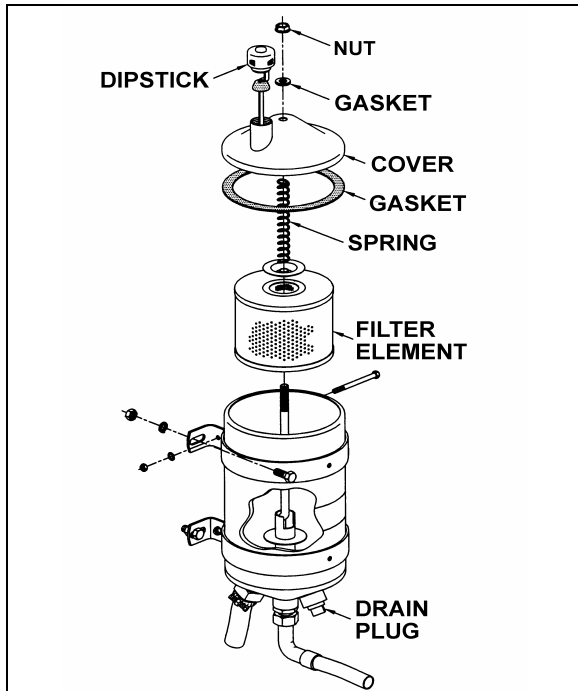

FIGURE 17: POWER STEERING FLUID RESERVOIR^{14018A}
3. Insert dipstick in reservoir. Remove it again to check fluid level (Fig. 17).